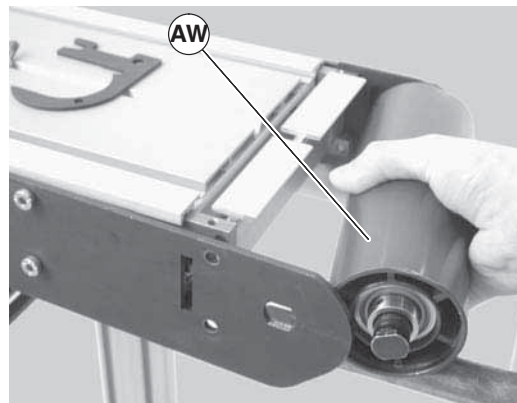

Figure 36
4. Slide the idler pulley assembly (Figure 36, item AW) out of the headplate on the opposite side.